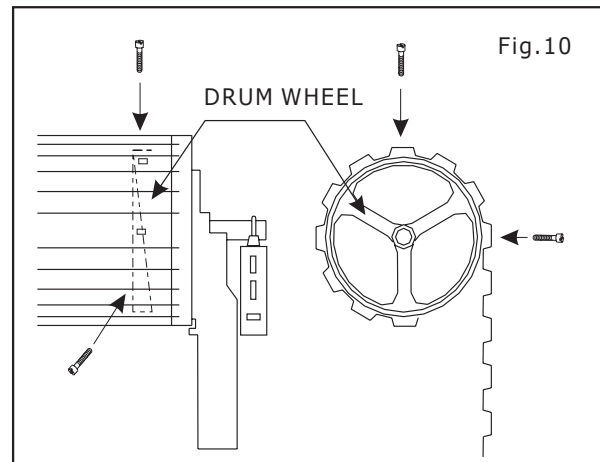

Fig.10
- (a) With the door in the fully closed position mark the curtain (as per Fig.10) on both ends of the door.
- (b) Open door slightly to have access to the marked positions. Secure the curtain to drum wheel using self drilling screws (two on each end) . The screws should be at least 90 degrees apart as per Fig.10.